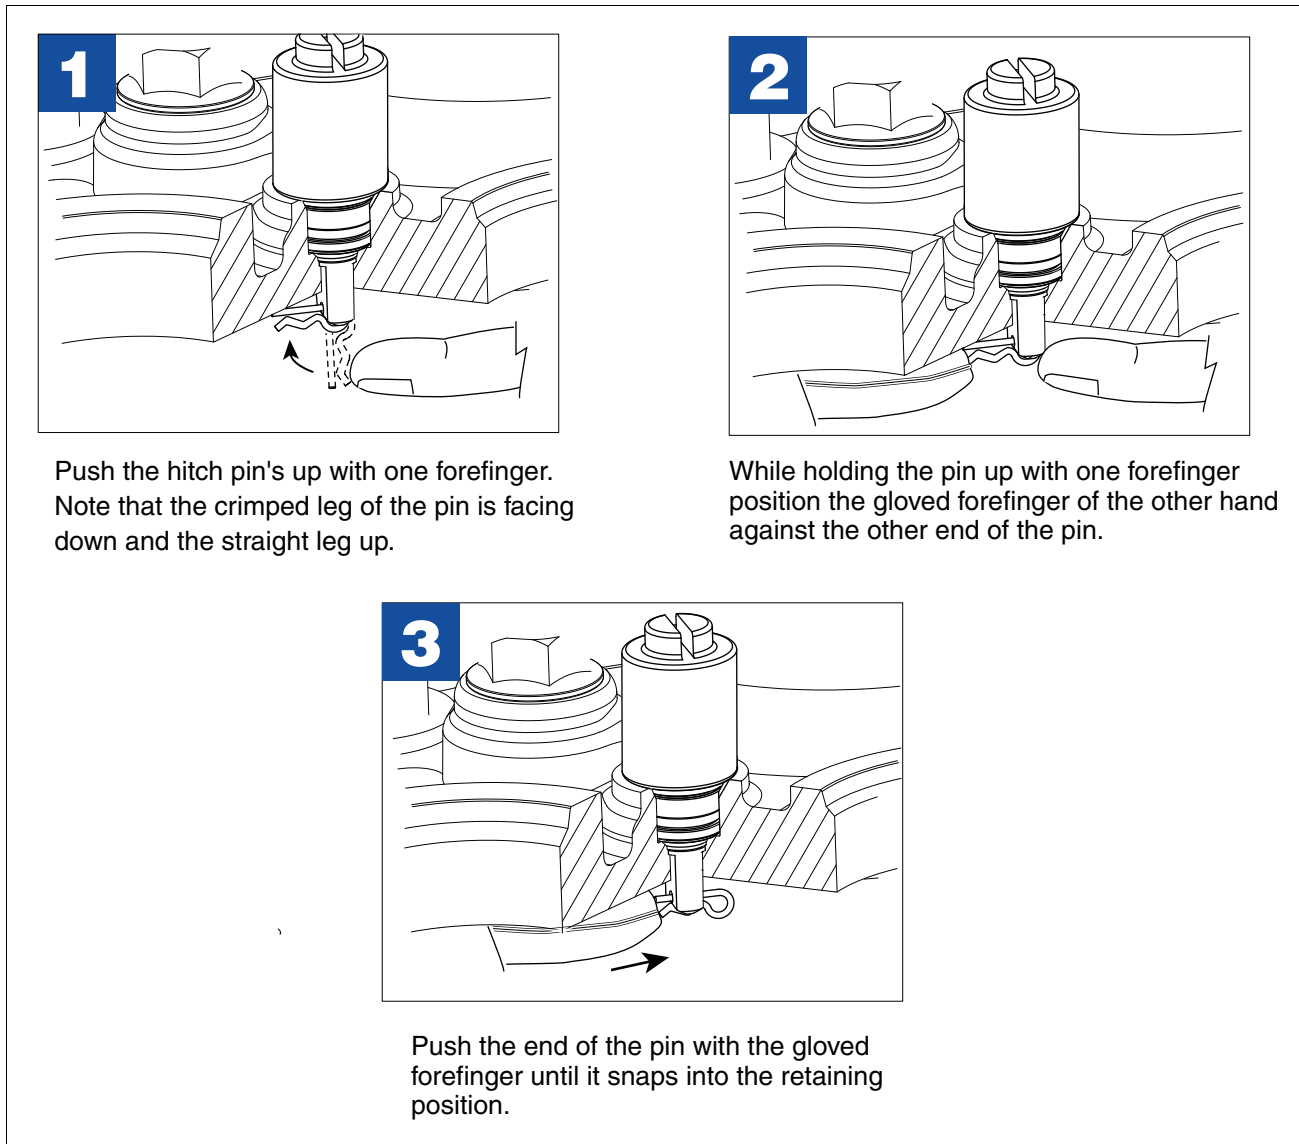

Figure 56. Installing Air Purge Screw Hitch Pin In The Retaining Position
9. When the screw is turned clockwise all the way down, but not tight, use the forefinger of one hand to push the hitch pin up as shown in diagram 1 of Figure 56.
10. While holding the hitch pin up with the forefinger of one hand, place the gloved forefinger of your other hand against the end of the pin as shown in diagram 2 of Figure 56.
11. Push the end of the pin with the gloved forefinger until it snaps into the retaining position as shown in diagram 3 of Figure 56.